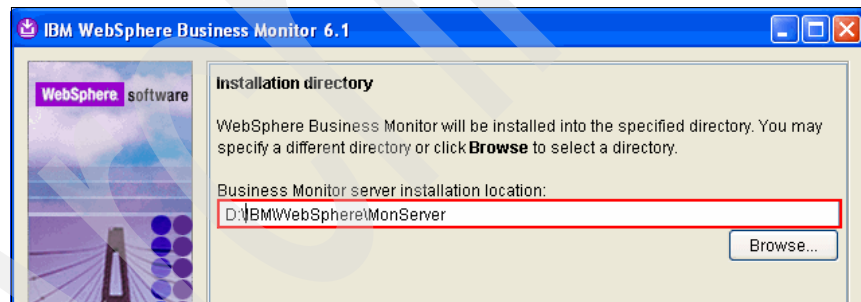

Figure 3-25 WebSphere Business Monitor installation: Installation directory
8. In the Installation directory panel (Figure 3-25), type a Business Monitor server installation location. In our example, we enter C:\IBM\WebSphere\MonServer. Click **Next**.